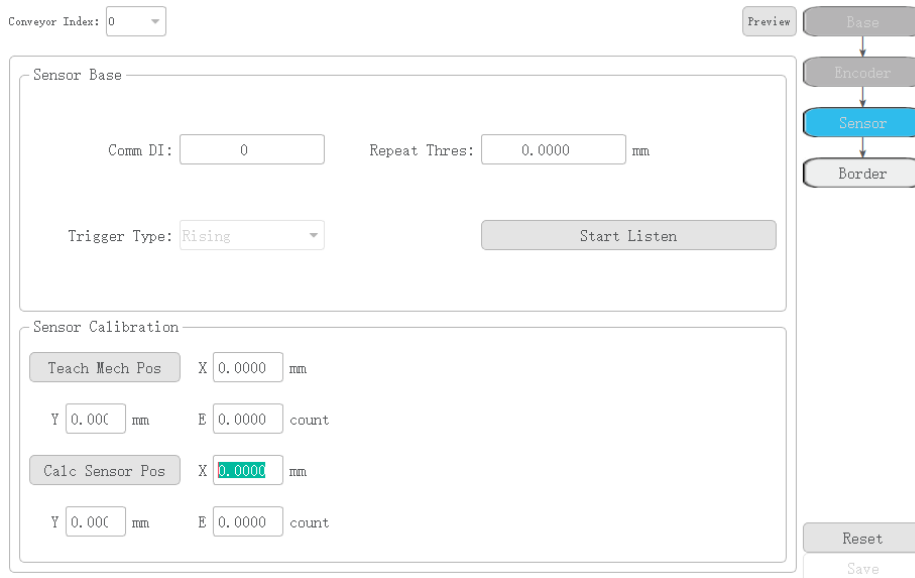

Figure 3.14 Sensor calibration page
Step 4 (Optional) Click **Sensor** to calibrate the sensor, as shown in Figure 3.14.